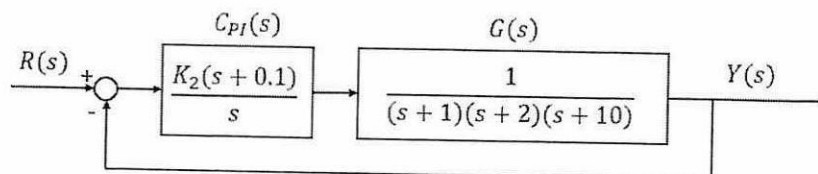
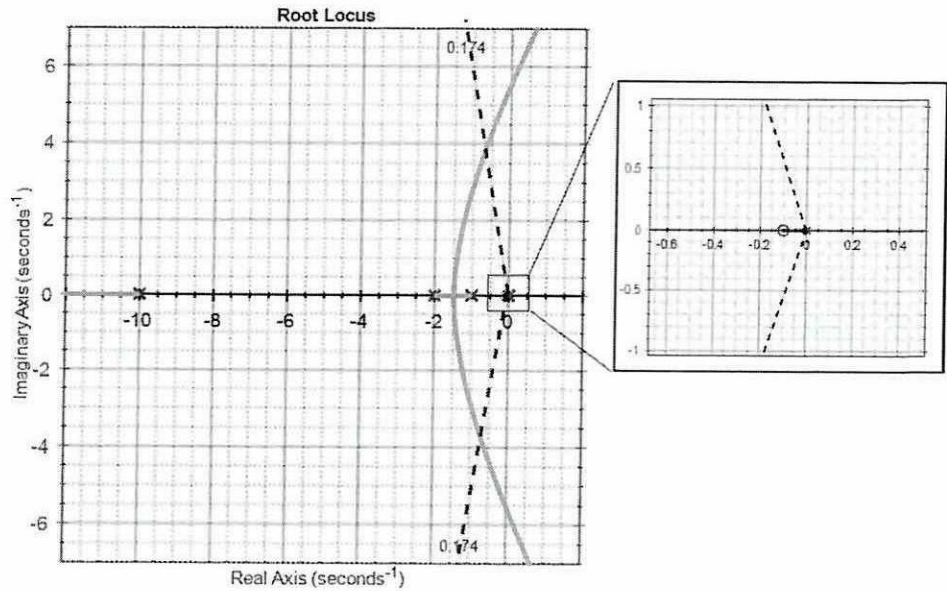

Figure Q3.3: PI compensator
Figure Q3.4: Root locus
- (v) To eliminate the steady-state error, a PI compensator $C_{PI}(s)$ is employed as shown in Figure Q3.3. Notice that the compensator is a pure integrator with a real zero component located at -0.1. The root locus for the compensated system is shown in Figure Q3.4. Calculate the value of K_2 that will give a similar transient response characteristic as in Q3(b)(i). Confirm that K_2 is within 1%-5% of K_1 .